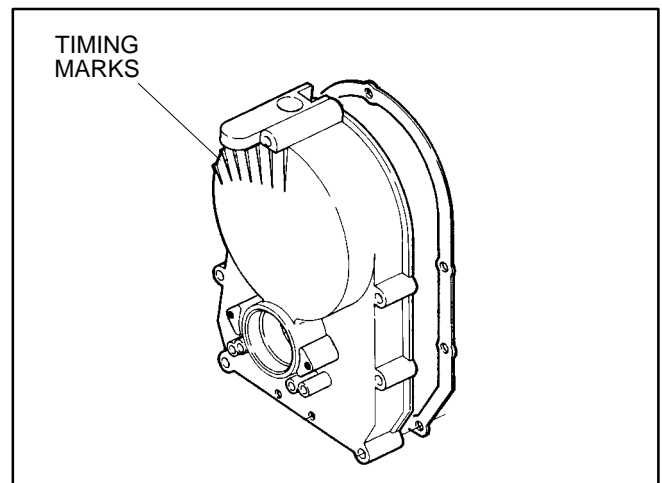

FIGURE 7-26. GEAR COVER AND GASKET
2. Remove the gear cover mounting screws (see Figure 7-26).